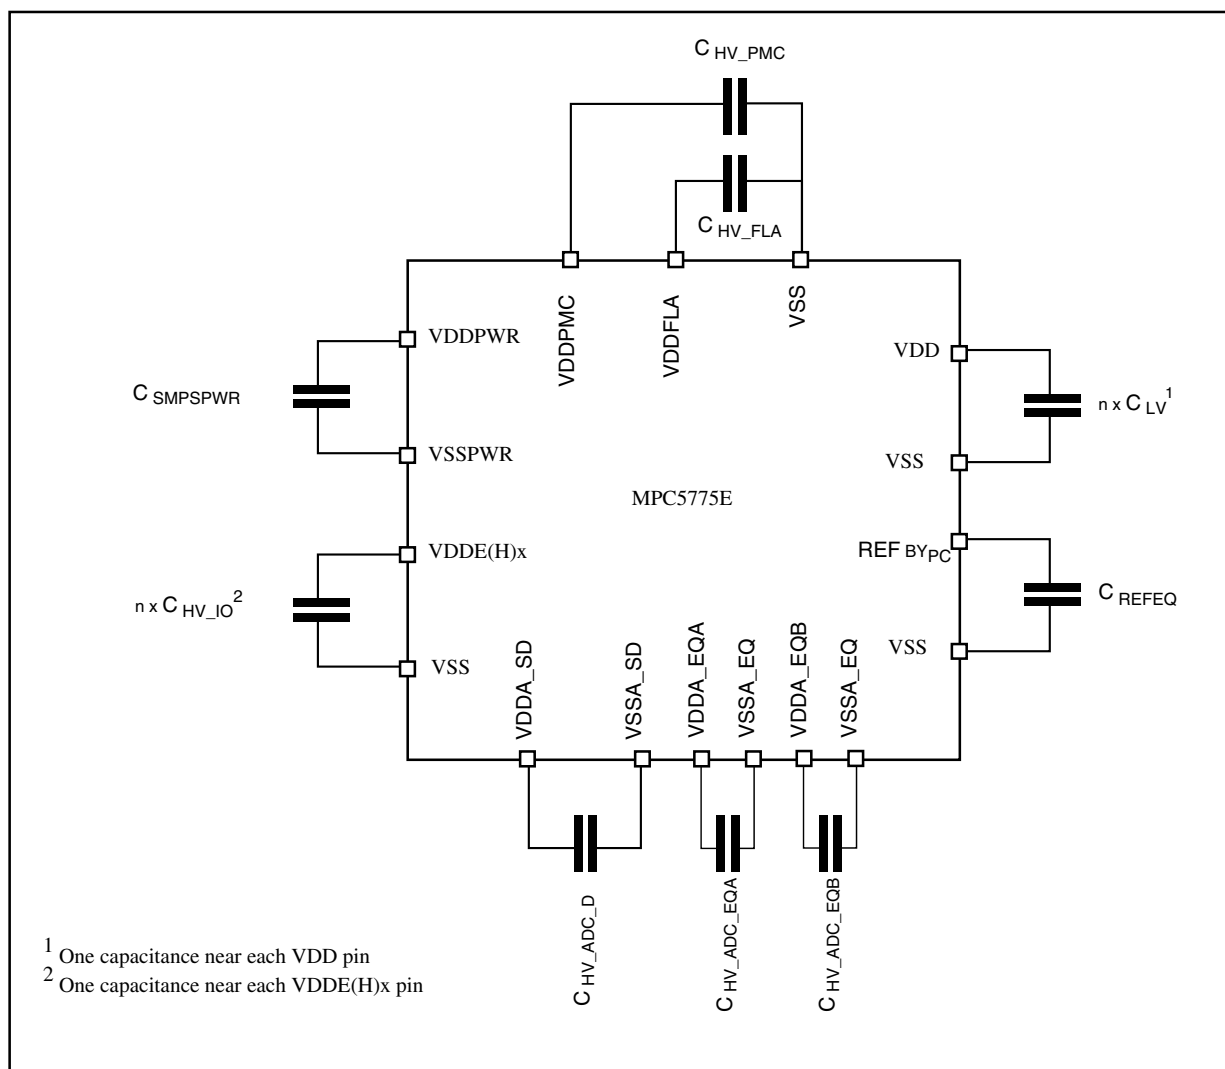

Figure 13. Recommended supply pin circuits
1. See Figure 13 for capacitor integration.